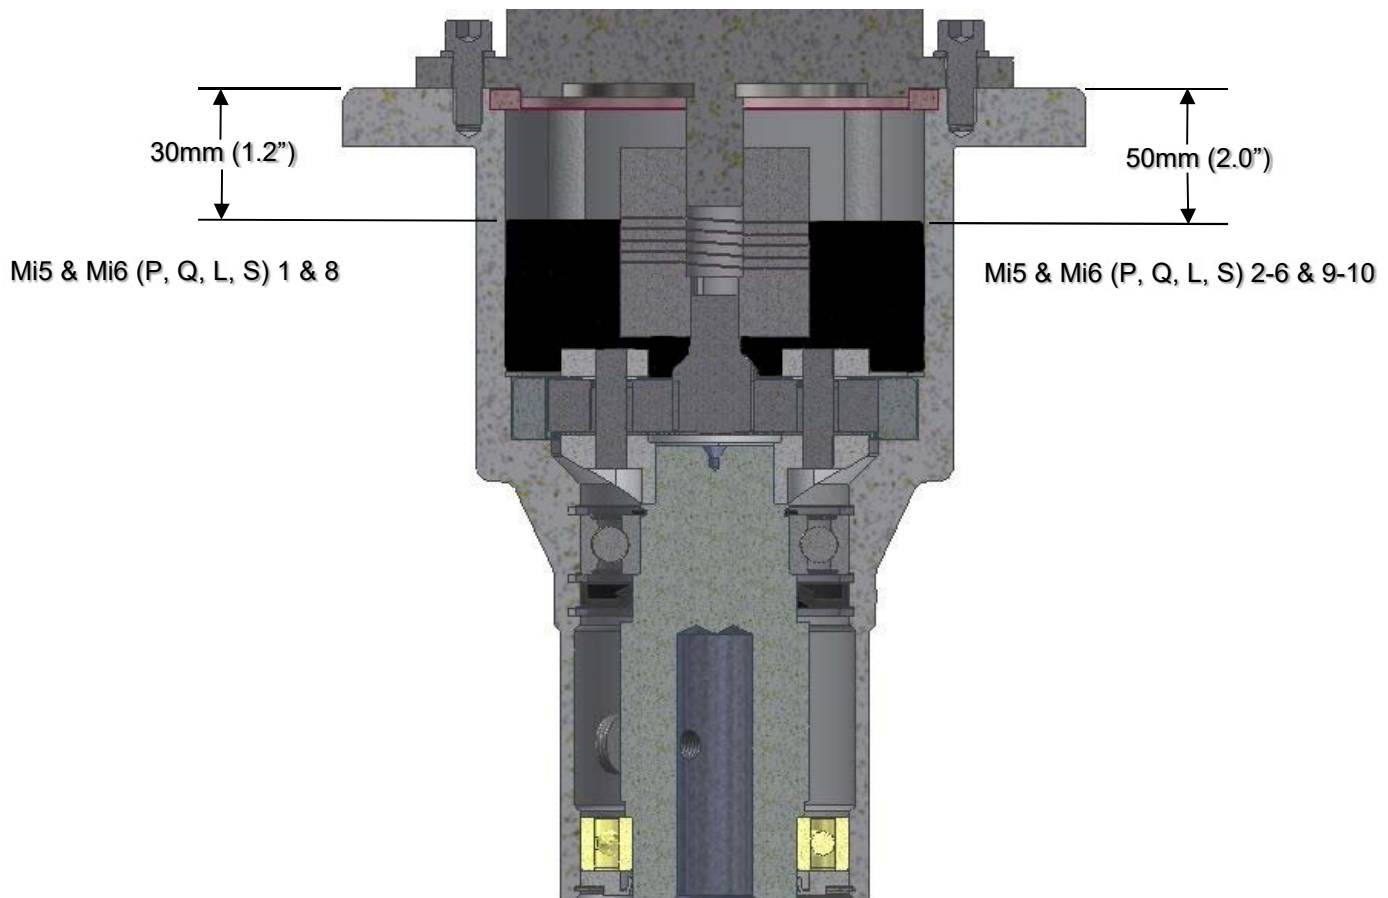

FIGURE 16
7.5 An alternate method to achieve the proper amount of grease required, is to measure from the top of the mixer housing (36) down to the grease level as shown in Figure 16.